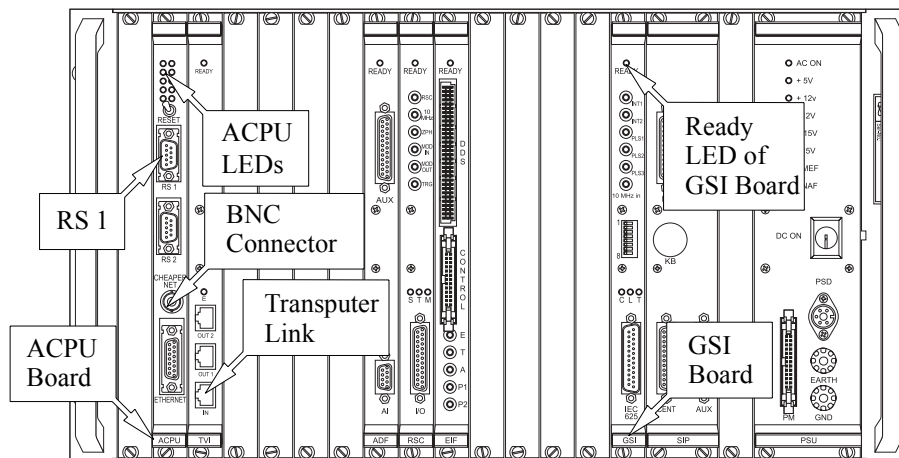

Figure 17-1 The ACPU rack.
Figure 17-1 shows the important connectors and indicators of the ACPU.
3. **Turn on the Eleksys console.** Press the ON button of the Eleksys console. The ACPU should start booting. The Acquisition Server CPU (ACPU) board has two red and eight green LEDs on its front panel. To judge whether the ACPU boots properly watch these LEDs closely during booting. When the ACPU boots, LEDs A and B should blink in the first few seconds after power up. (See Figure 17-3.) This may take a minute. (See Figure 17-1.) The following indicates the function of some of the LEDs on the ACPU board.
4. **Boot up the transputer devices.** After the ACPU boots up from the UNIX workstation, it immediately begins to boot the transputer devices. As each device is identified its R LED will blink once briefly. When the transputer device is booting, the R LED blinks rapidly about 10 times and then stays on. Upon successful booting of the ACPU and the transputer devices, the GSI board's Ready LED will light. (See Figure 17-1.)